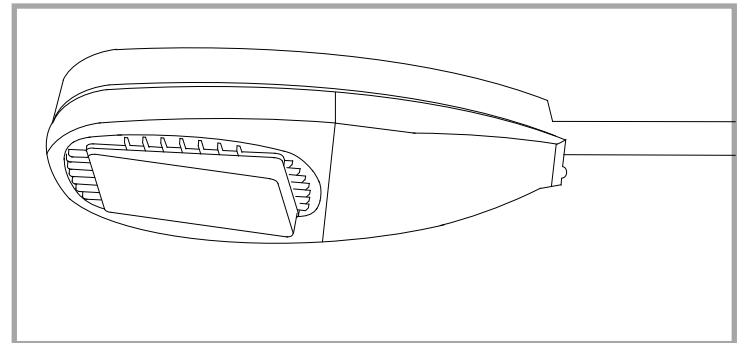

Figure 5: Close & latch the luminaire.
Step 5: Close & Latch The Luminaire (Figure 5)